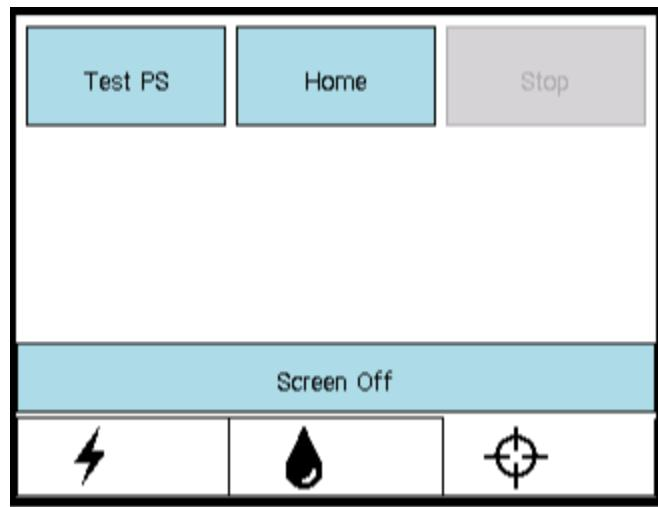
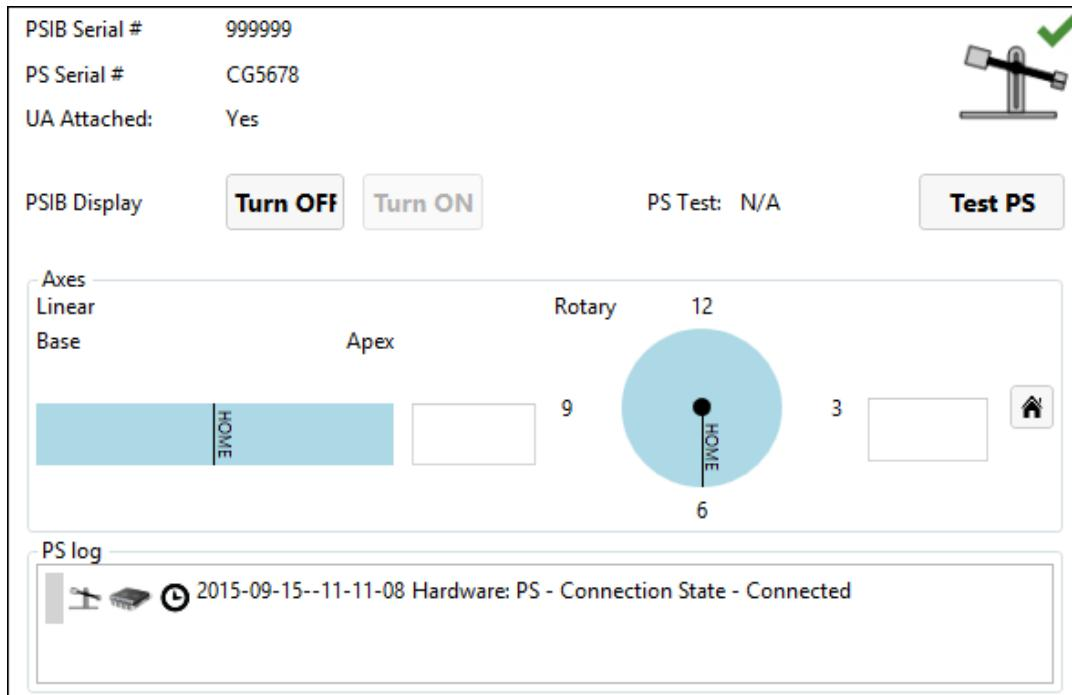

Figure 7: PSIB display - PS tab
Figure 8: PS information box in Setup workspace
- On the PSIB display, select the PS tab  and click **Test PS** (Figure 7). The system will translate the PS forward and backward to test the continuity and functionality of the translation axis as well as home the PS in the translation axis. The system will also rotate the rotational axis clockwise and counter-clockwise to test the continuity and functionality of the rotational axis. (This can also be done from the TDC *Setup* workspace in the PS information box in the bottom-right quadrant Figure 8.) You can move to the next step while the PS test is in progress.